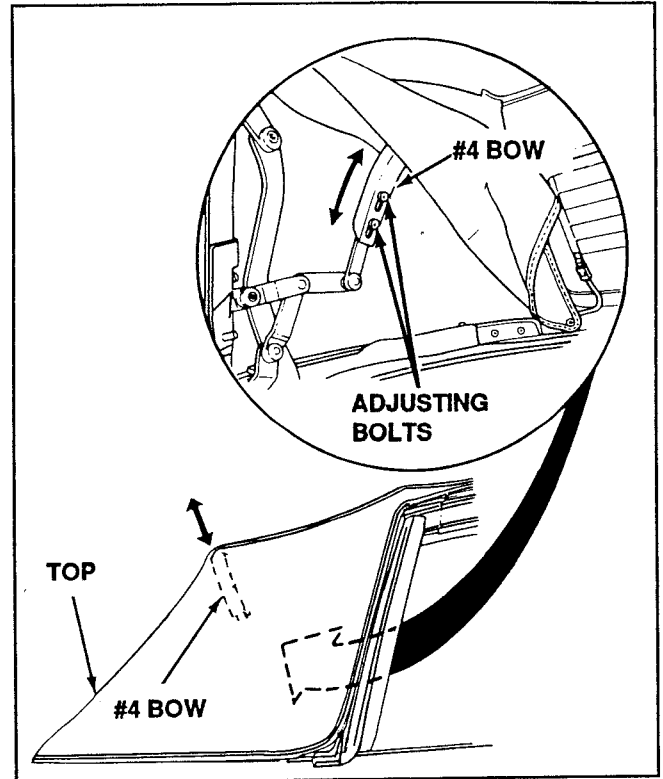

Figure 42. Adjust 4-Bow for Correct Tension
3. Push up on the 4-bow to remove wrinkles but not so tight that the 5-bow cannot be closed. Tighten the screws (Fig. 42).